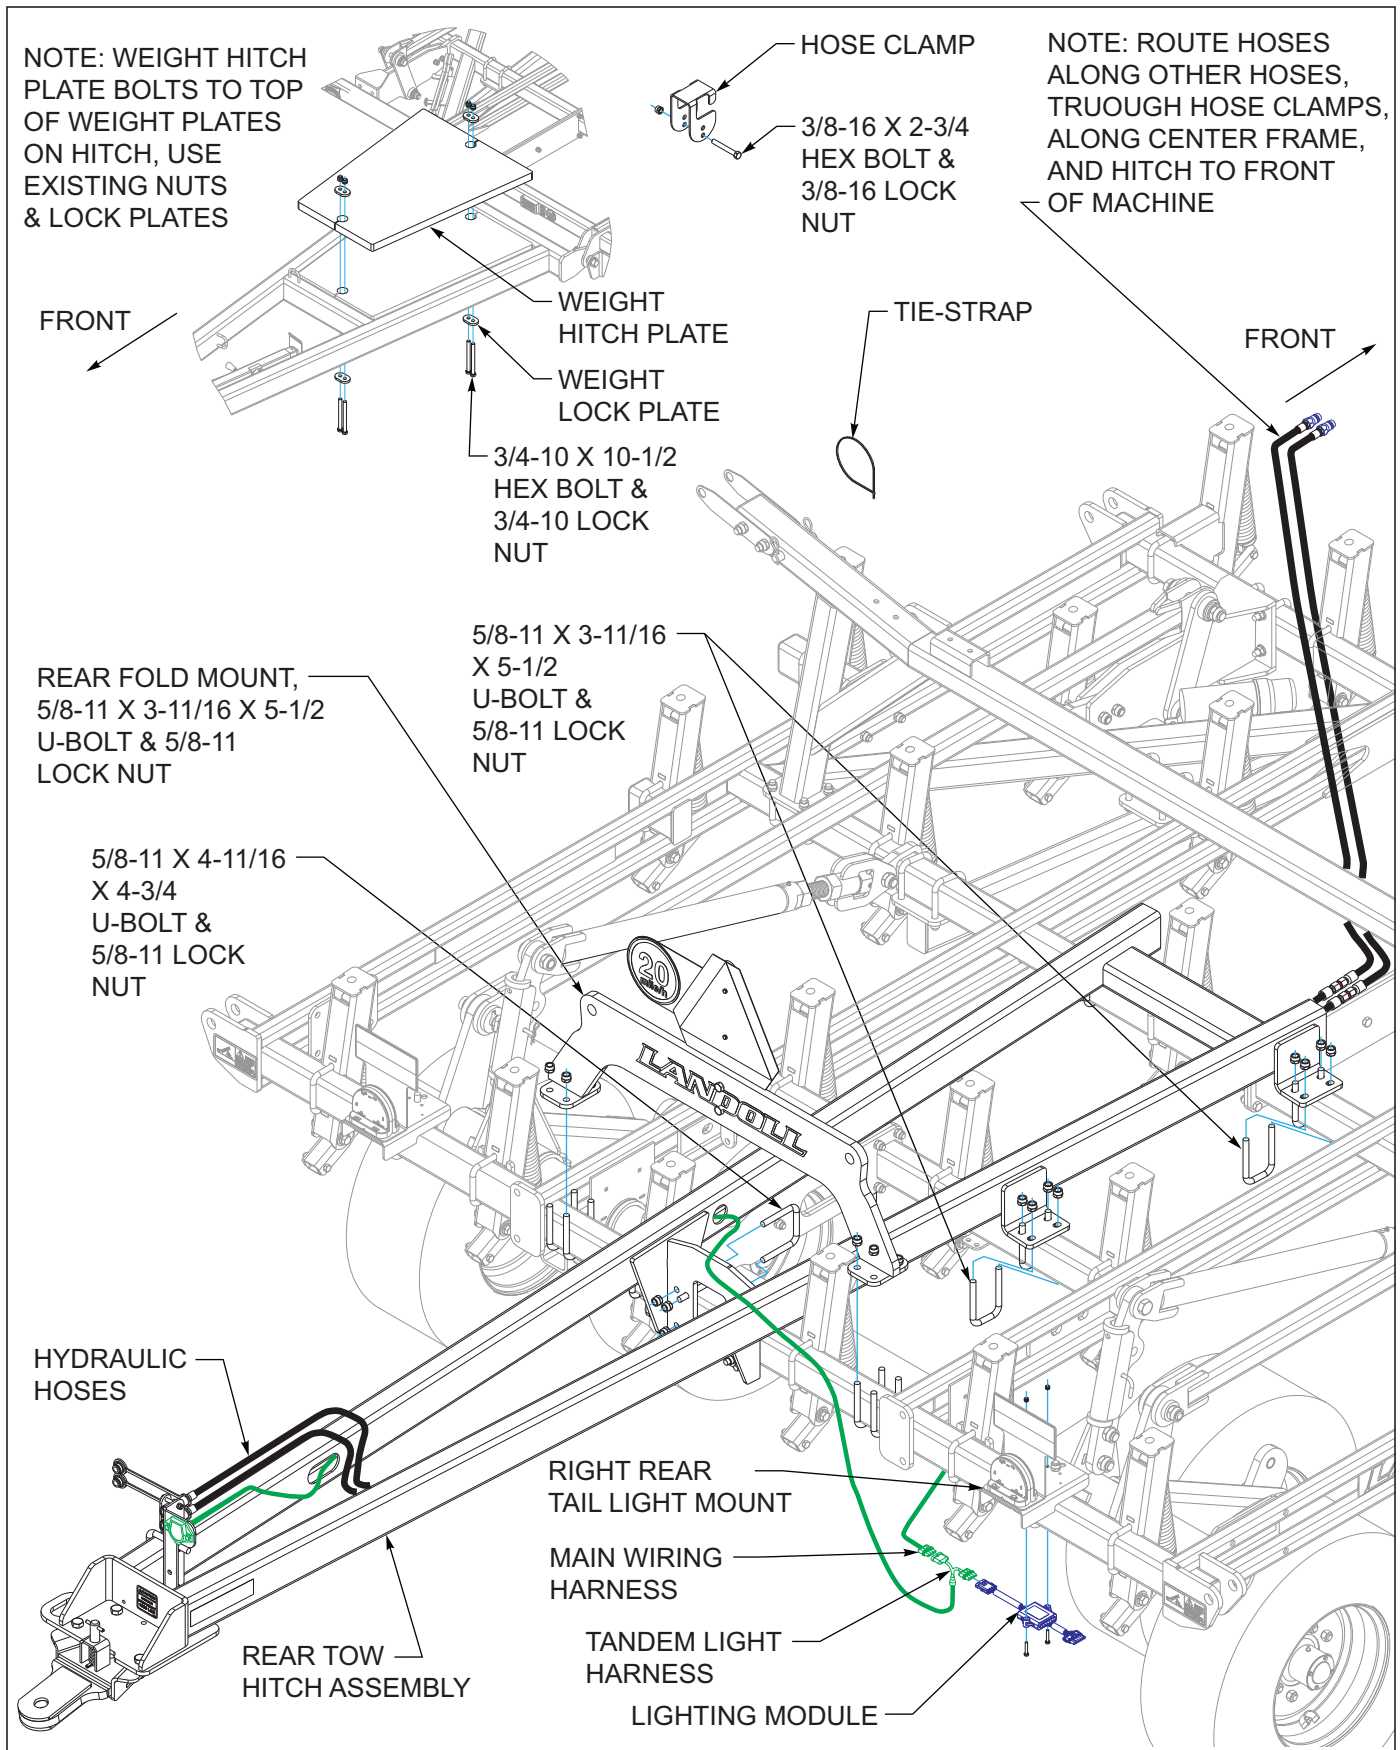
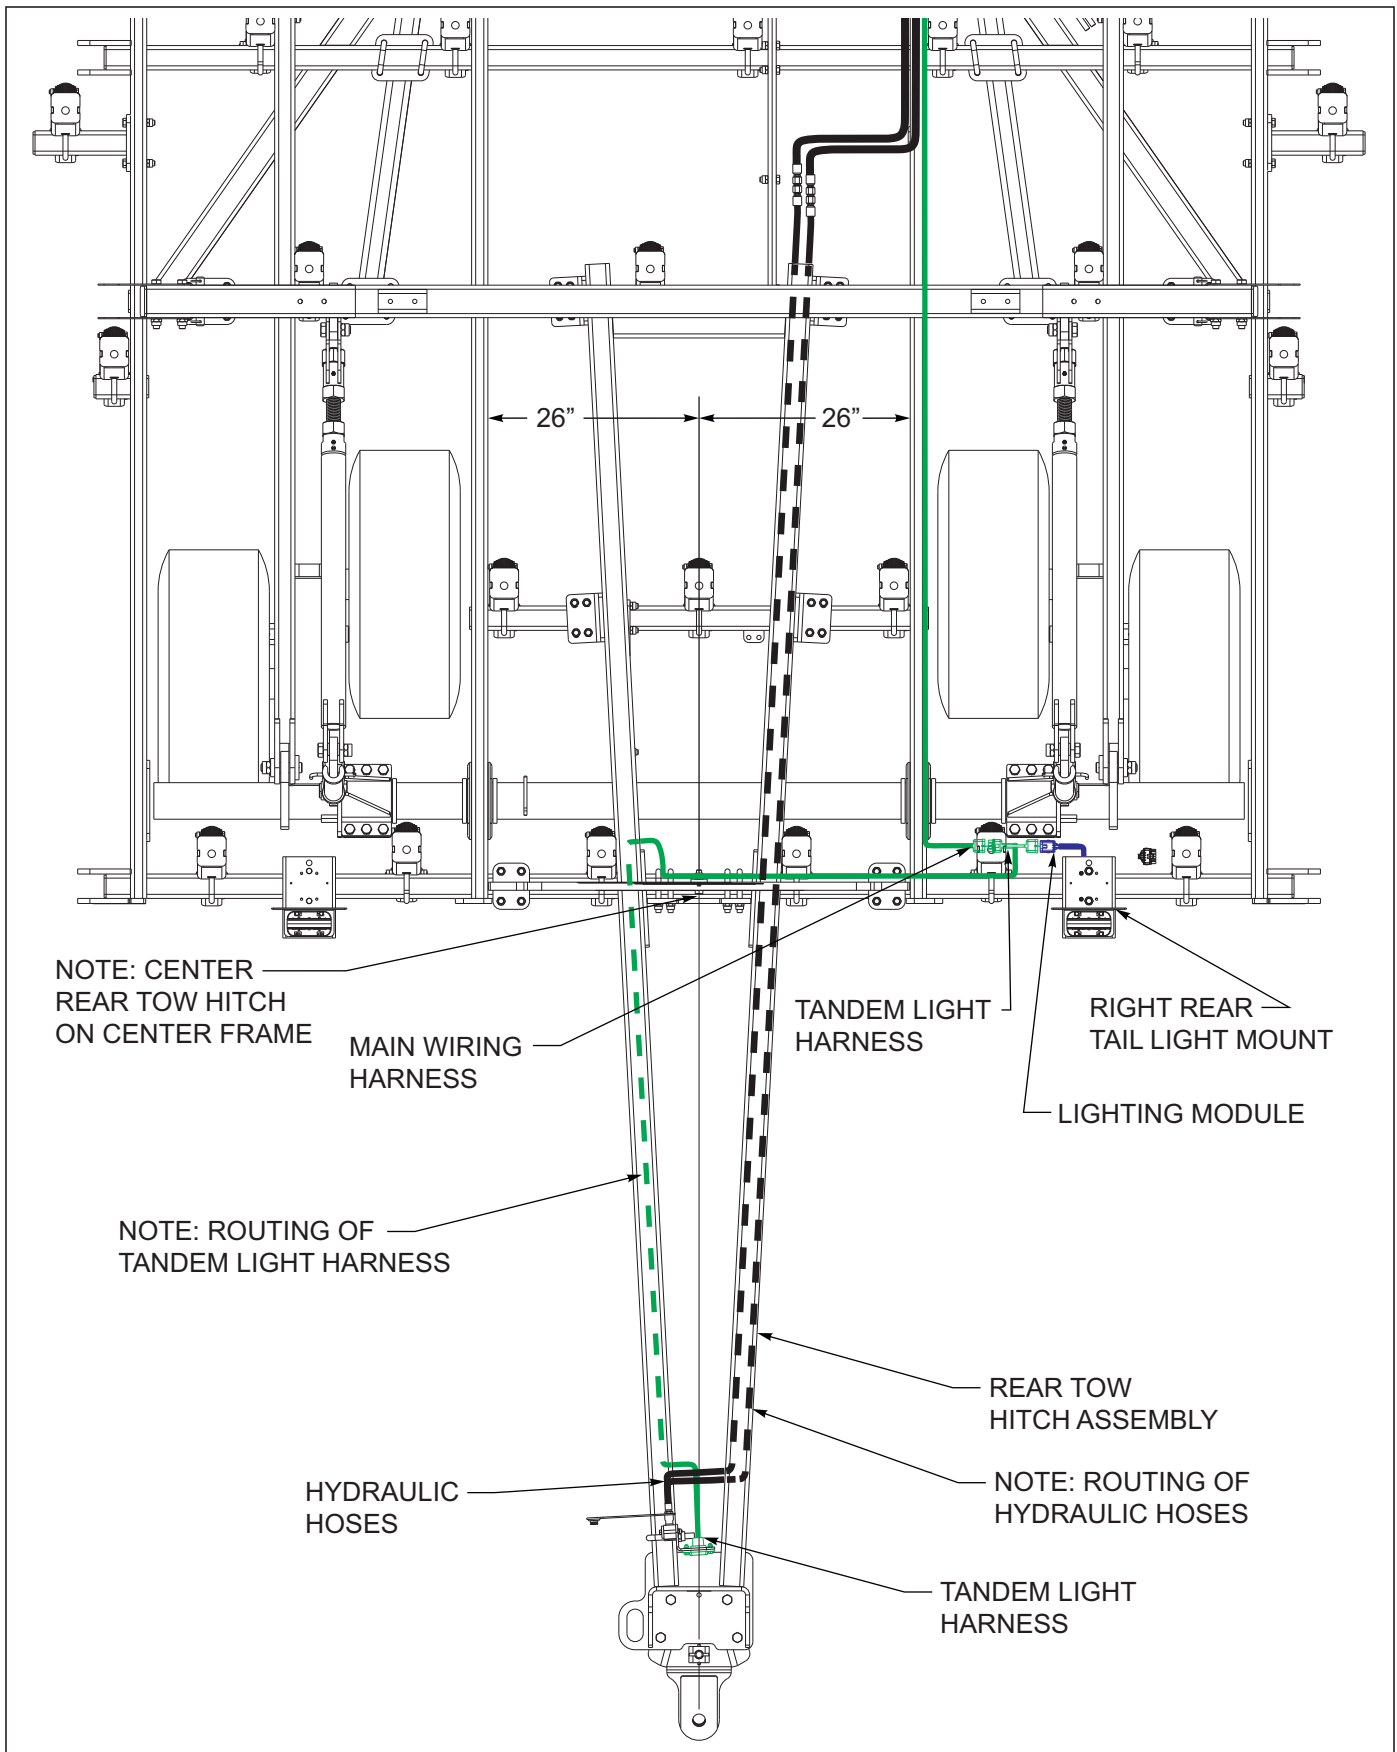

Figure 3-36: Rear Tow Hitch Installation
Figure 3-37: Rear Tow Hitch Layout
2. Remove the 3/4-10 x 8-1/2 hex bolts and 3/4-10 lock nuts from weight hitch plates *See Figures 3-36*.
8. Center the rear tow hitch assembly on center frame *See Figures 3-37*, tighten all u-bolts to secure hitch.
10. Route the tandem light harness connector across the rear frame bar to the right rear tail light. Unplug the existing four-pin main wiring harness from the lighting module. Connect the rear tow hitch harness between the lighting module and the main wiring harness *See Figures 3-36* and *See Figures 3-37* for proper hose and light harness routing.